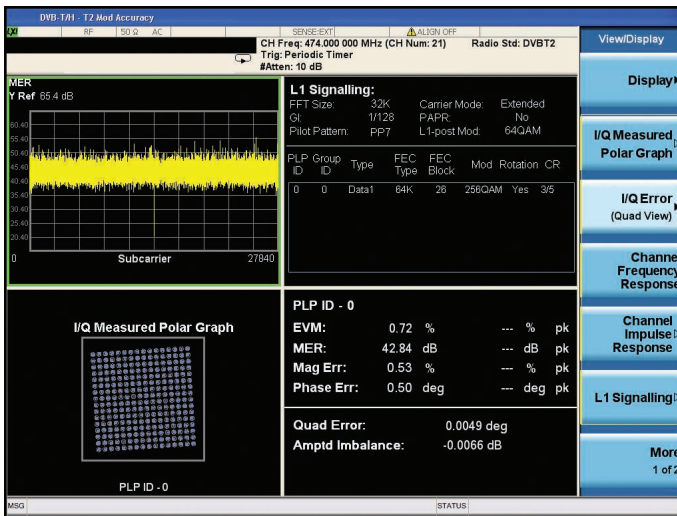

Figure 26. I/Q error view
- **I/Q error view** (Figure 26): A view of computed error vector between corresponding symbol points in the I/Q measured and I/Q reference signals
View the I/Q error results and specify the PLP index to view (Figure 26)	[View/Display] {I/Q Error (Quad View)}